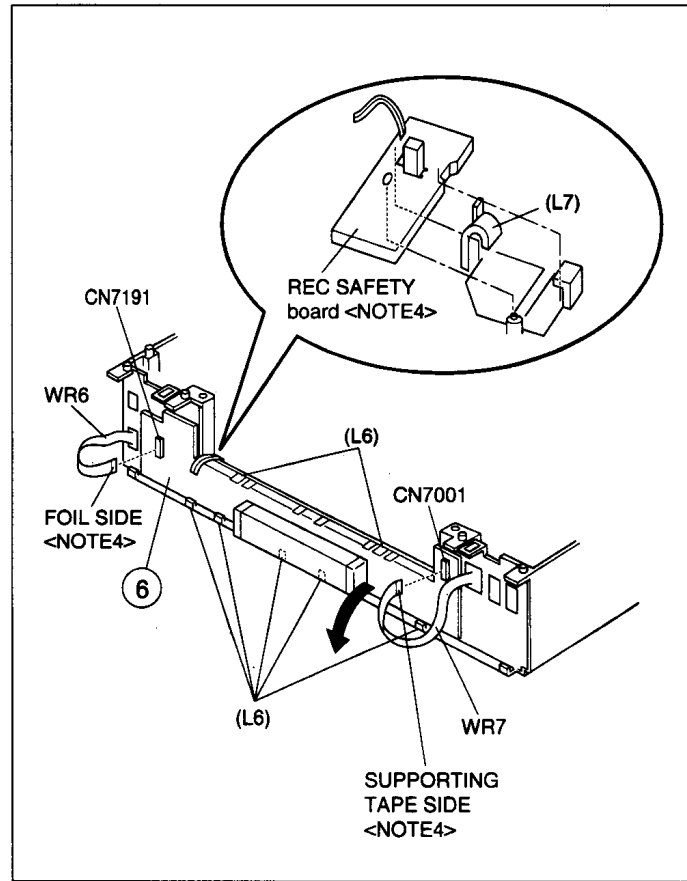

Fig. D6
- (7) Remove the Switch/Display board assembly and REC safety board assembly. (Refer to page 1-3 of 1.3 DISASSEMBLY/ASSEMBLY METHOD. Take care not to pull the flat wires (Fig. D6) from CN7001 and CN7191.)